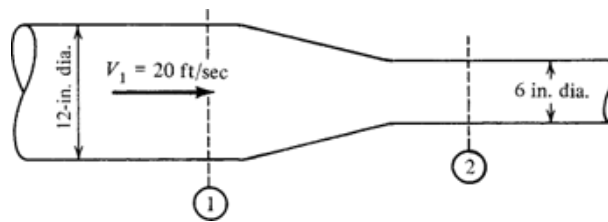

Figure P3.18
- 3.18** 3.18. Seawater ($\rho = 64$ lbm/ft³) flows through the reducer shown in Figure P3.18 with $p_1 = 50$ psig. The flow losses between the two sections amount to $h_l = 5.0$ ft – 1bf/lbm.